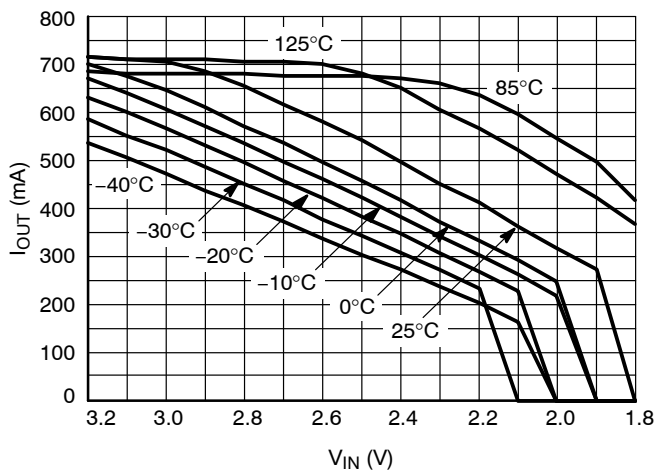

Figure 22. Output Current Capability for the 1.5 V Version
22. For output current capability for $T_A < 0^\circ\text{C}$, please refer to Figure 22.